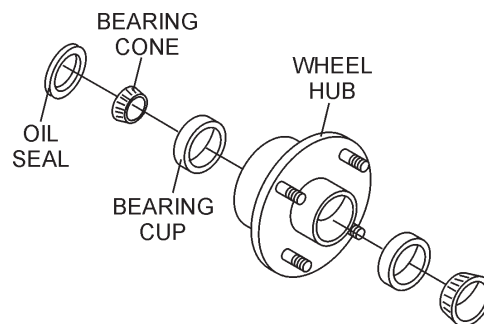

Figure 38. Wheel Hub and Bearings
1. After every 3 months of operation, remove the hub dust cap and inspect the wheel bearings (Figure 38). Once a year, or when required, disassemble the wheel hubs remove the old grease and repack the bearings forcing grease between rollers, cone and cage with a good grade of high speed wheel bearing grease (**never** use grease heavier than 265 A.S.T.M. penetration ("No. 2."))